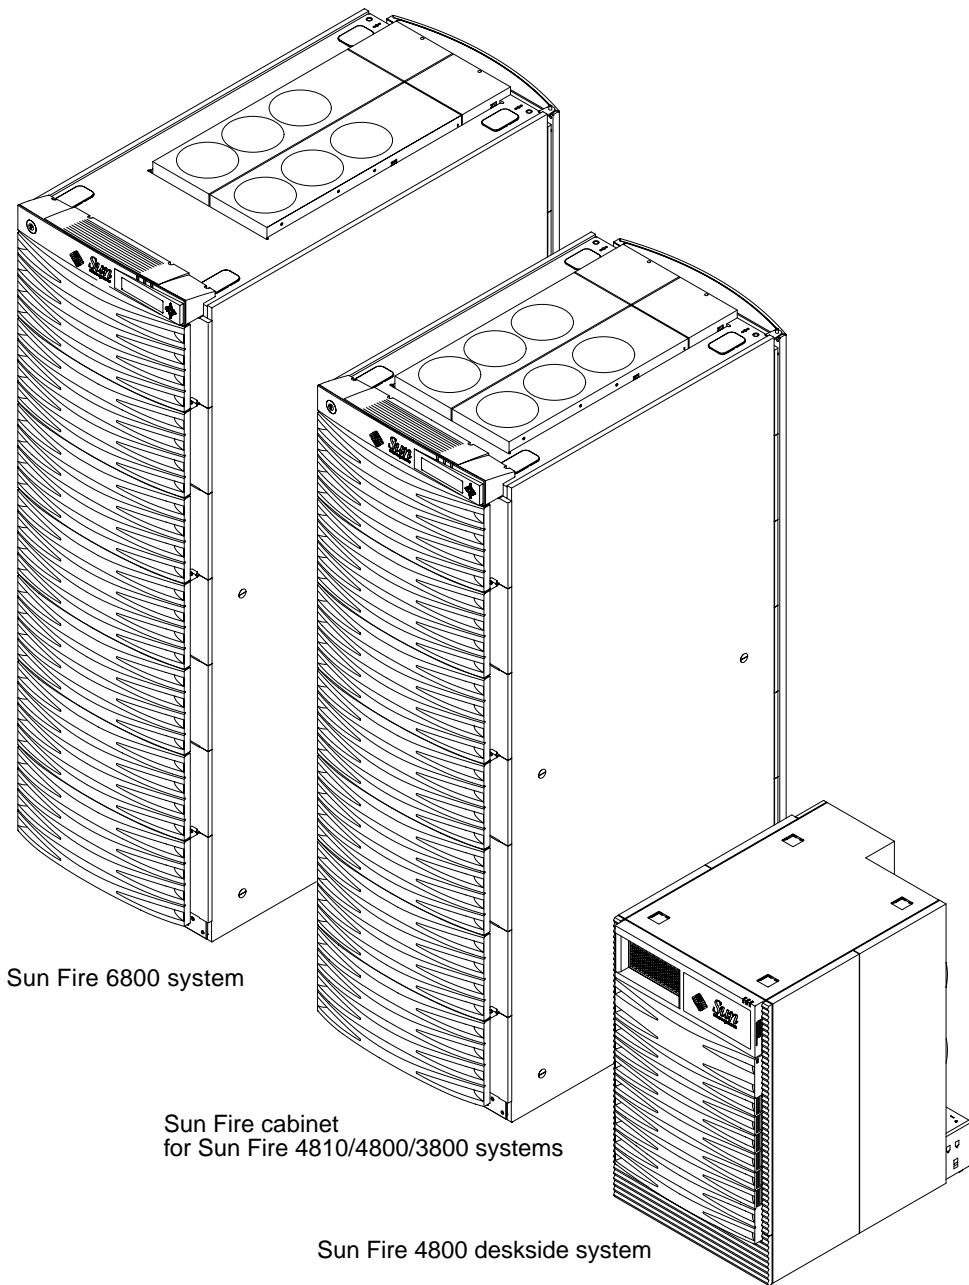

FIGURE 1-1 Sun Fire Systems and Sun Fire Cabinet
- FIGURE 1-1 Sun Fire Systems and Sun Fire Cabinet 2